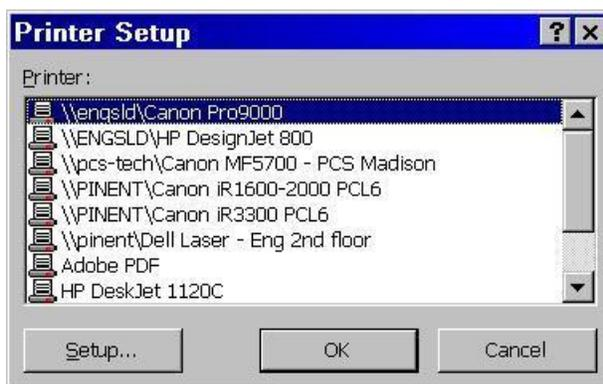

Figure 5.2: Network Single File Actions
**Single G2 Data File Actions:** This button opens a window to save or print individual data files saved on the AFG2. Select the data file then select the action desired. A report containing only height data can be printed by selecting the Height Only check box. See Figure 5.2